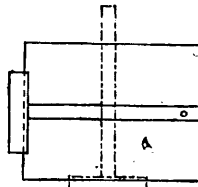

Fig. 7.
7. Lines parallel to the long edges of the drawing-board should be drawn with the T-square, as also lines at right angles to these, if longer than an edge of the set-square (see figs. 7 and 8).